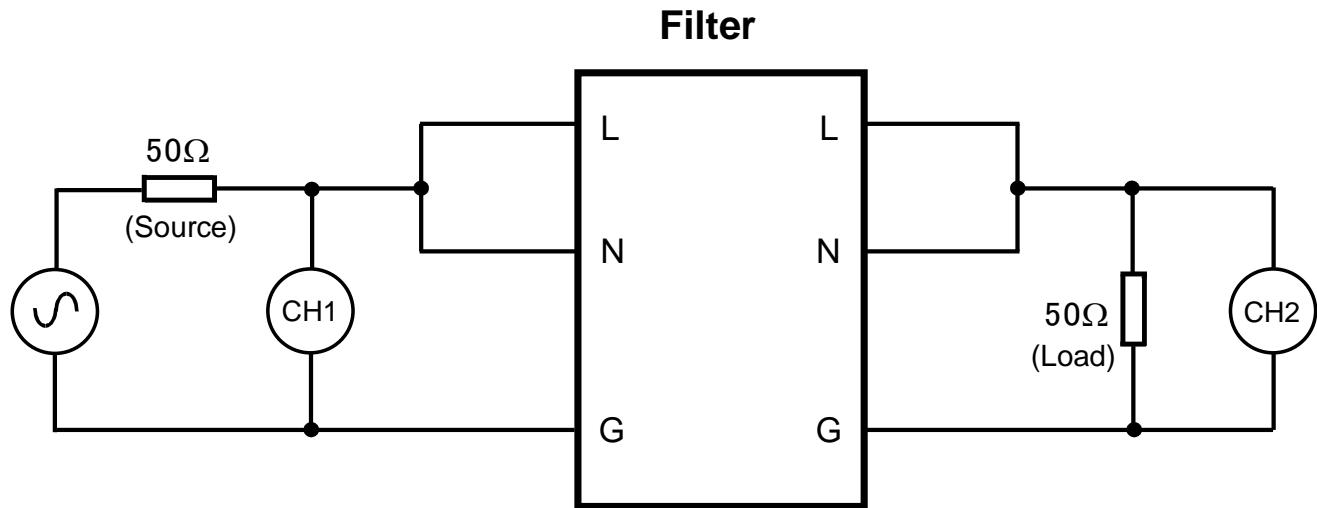

Fig 2.
The test circuit shown in Fig 2 applies a common signal to both Line and Neutral terminals relative to ground and will therefore provide a measure of Common Mode (CM) Insertion Loss.